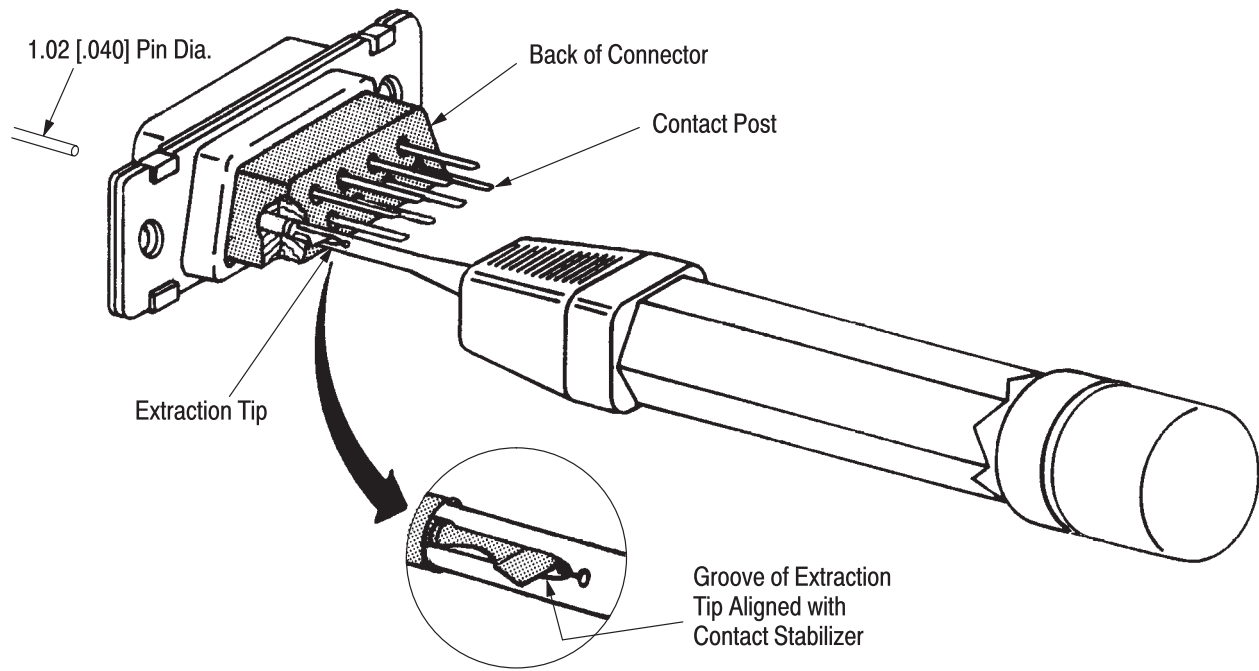

Figure 6
**4.4. Extracting A Posted Contact** (Figure 6)
2. Align the groove of the extraction tip with the contact stabilizer as shown in Figure 6.